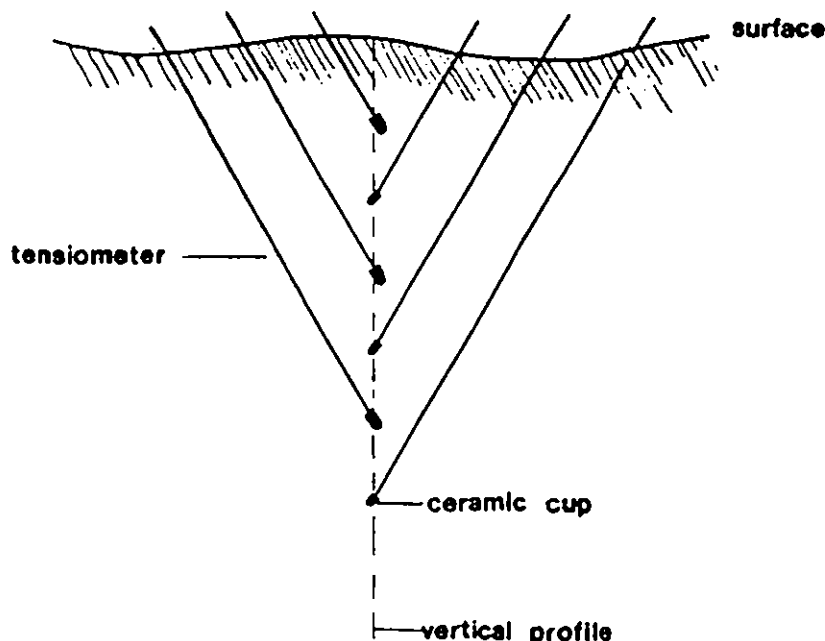

Figure:1 Inclined installation of tensiometers
- ii) Installing a series of individual tensiometers at an angle (using a jig) so that their cups form a vertical profile (Fig. 1). This can be a fairly complex and difficult procedure.